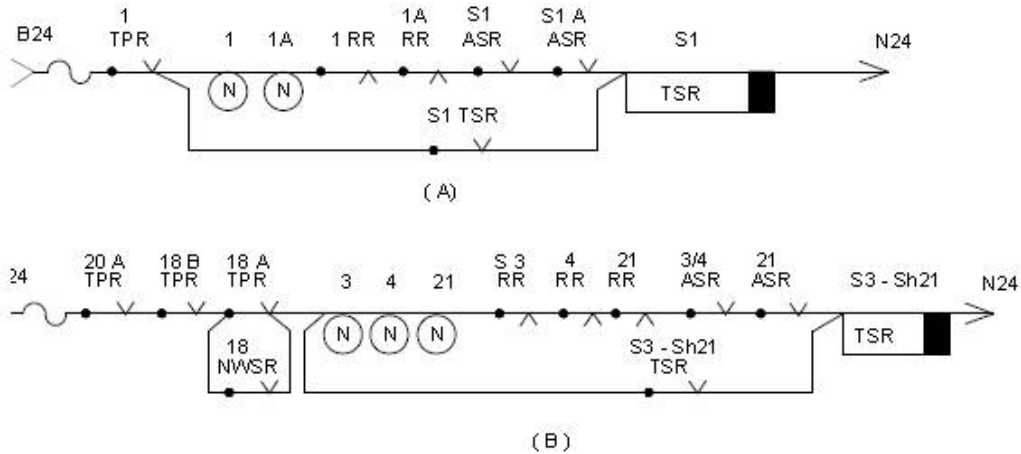

Fig.A.2
This is a one signal-one train (one movement) circuit. When a signal is taken off for a train and the train passes the signal, the TSR ensures that the signal is put back to 'ON' immediately. The TSR also ensures that the signal does not re-clear automatically, though knob is left in Reverse and all other conditions favourable. The stick relay is controlled by the first track circuit immediately in advance of the signal and the normal position of the concerned signal knob. Fig A.2 (A) is with signal switch, Fig. A.2 (B) is with signal Button.